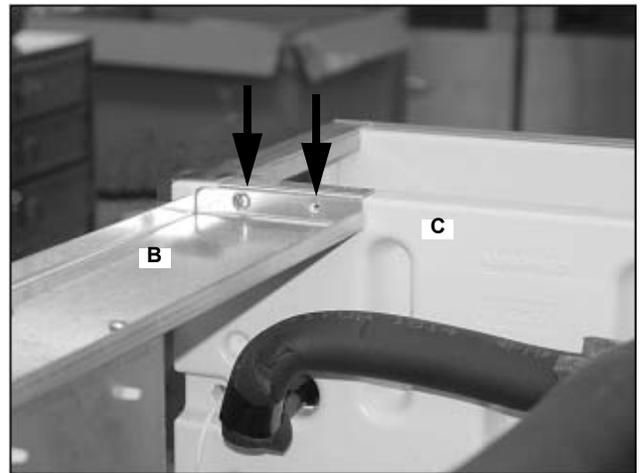

Figure 51.
55. Attach the support brace (B) to the evaporator bulkhead (C) with 2 Phillips head screws (Figure 51).